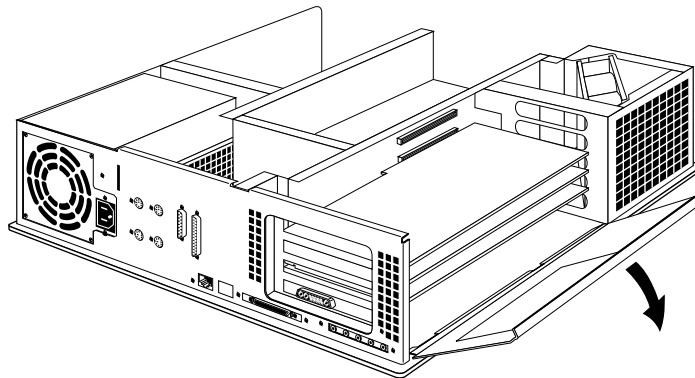

Figure 3-8 Opening the Metal Panel in Front of the Expansion Slots
1. Move the system or position yourself so that you are facing the expansion slots, as shown in Figure 3-8.